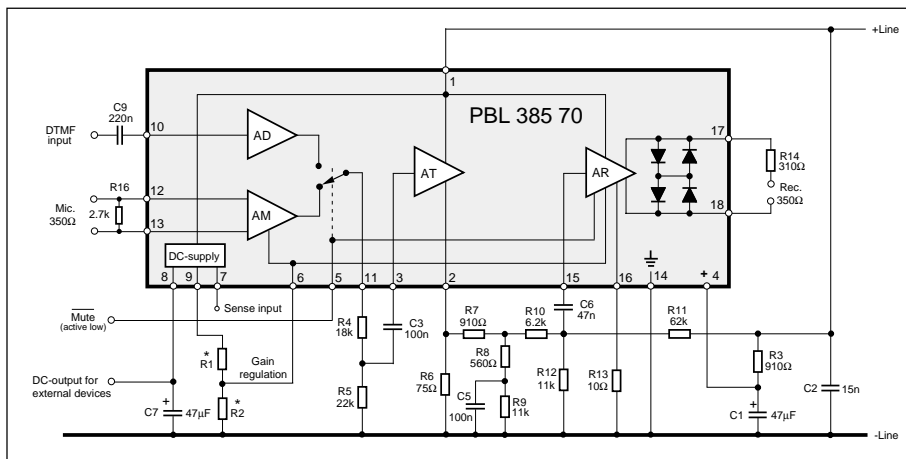

Figure 4. Circuit with external components for test set up.
**Design procedure;** ref. to fig.4.
The AC- impedance to the line is set by R3, C1 and C2. Fig.4. The circuits relatively high parallel impedance will not influence it to any noticeable extent. At low frequencies the influence of C1 can not be neglected. Series resistance of C1 that is dependent on temperature and quality will cause some of the line signal to enter pin 4. This generates a closed loop in the transmitter amplifier that will create an active impedance thus lowering the impedance to the line. The impedance at high frequencies is set by C2 that also acts as a RFI suppressor.